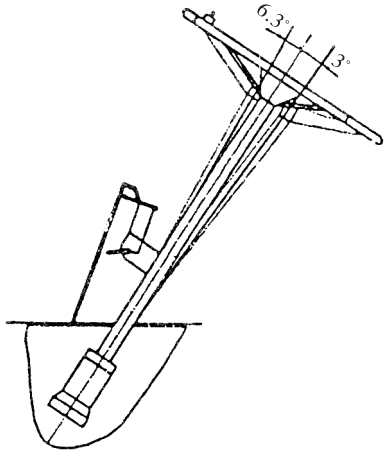

Fig.6-1
(1) Powered steering ass'y (See Fig.6-1)